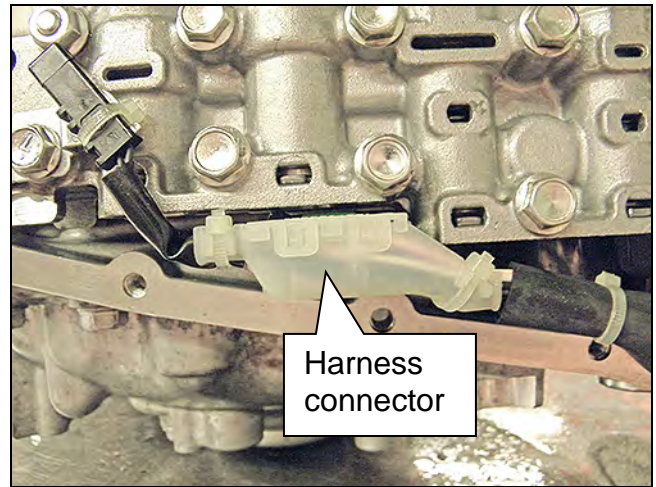

Figure 29
5. Connect the electrical harness connector (Figure 29).